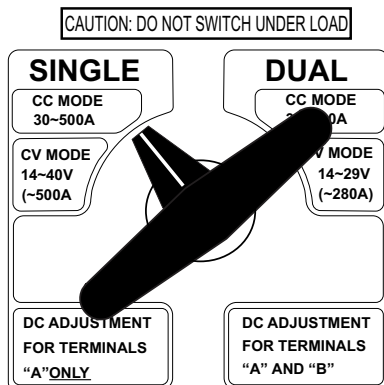

Figure 34. Single-Dual Selector Switch (Single Position)
- Place the welding mode selector switch (Figure 34) in the **single** mode position. Select CC mode 30-500A.